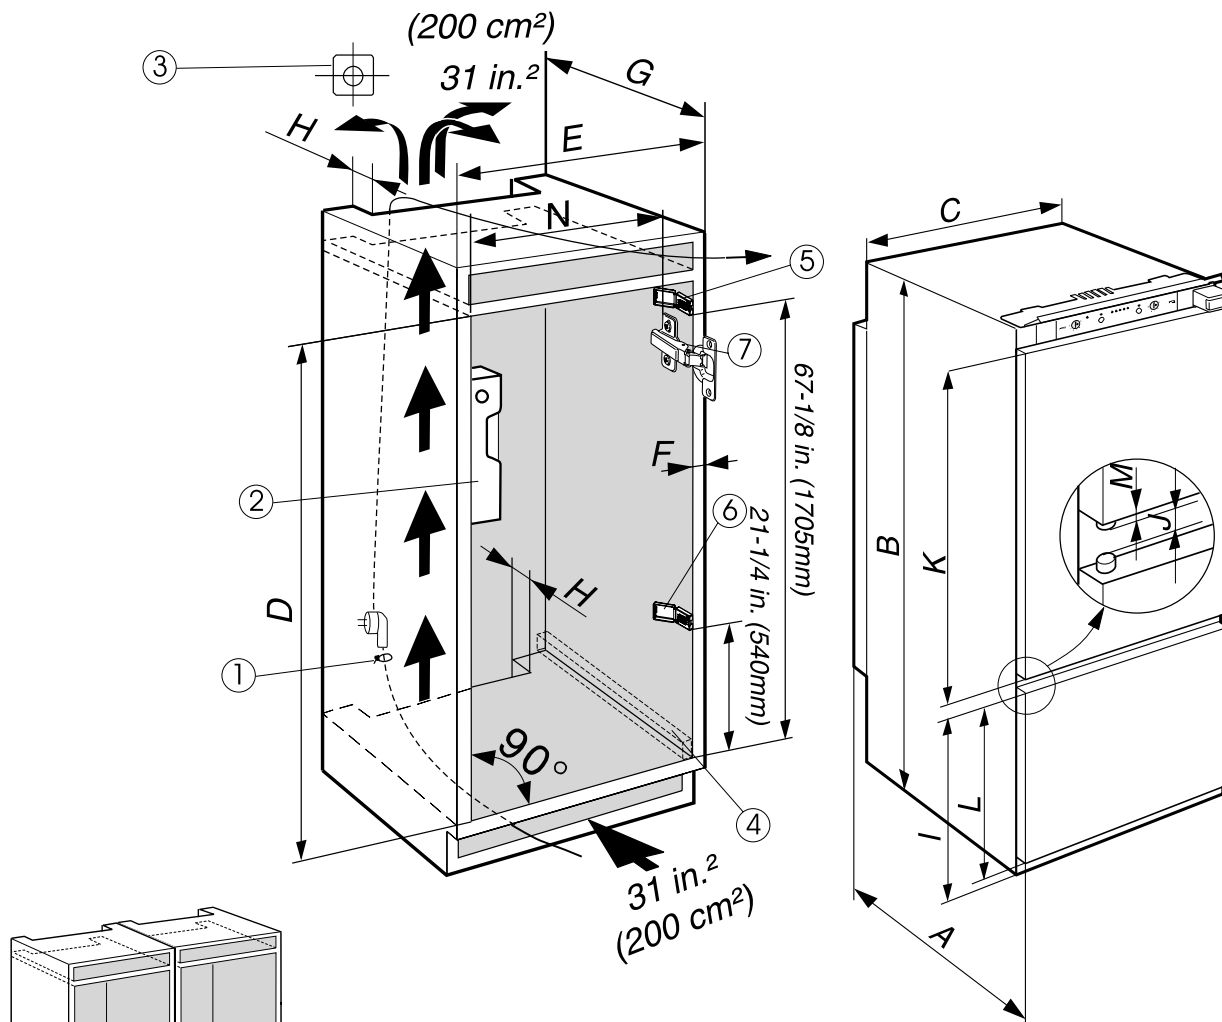

Figure 7
Construction of Kitchen Cabinet - *Figure 7*
Construct the kitchen cabinet using the dimensions shown in **Figure 7**.
1. Align the kitchen cabinet with a level (**Fig. 7, 2**) and a square. If necessary, shim underneath the cabinet to make it level. The floor and side walls must be at right angles to each other.
Follow the dimensions provided in **Figure 7** to determine if any shims (**Fig. 7, 4**) are required. Also make sure you adjust the height of the kitchen cabinet (**Fig. 7, Dimension "D"**) if you need to add any shims.
4. Use a fish line (**Fig. 7, 1**) to pull the plug up to reach the outlet (**Fig. 7, 3**).
- Check the installation dimensions according to **Figure 7**.
- Make sure that you account for the projection (thickness) of the hinge you select. You must have 21-7/16 in. (544.5 mm) clearance between left inner wall of the cabinet and the projection (thickness) of the hinge. See **Figure 7** dimension "N."